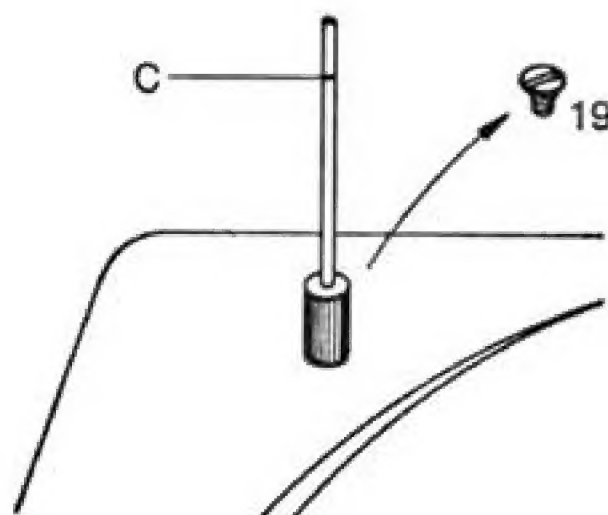

Fig. 3
See Fig. 3. The Lencoclean Record Cleaning Device which cleans and moistens the record while it is being played, thereby reducing the unwanted noises to a minimum as well as increasing considerably the life of the record, can easily be fixed to the L 75. Remove the screw (19) in the left hand rear corner of the base plate, and in its place screw in the spindle (C). Remove the adjustable bearing from the base supplied with the Lencoclean, and place it on spindle (C), then place the Lencoclean on the spindle.